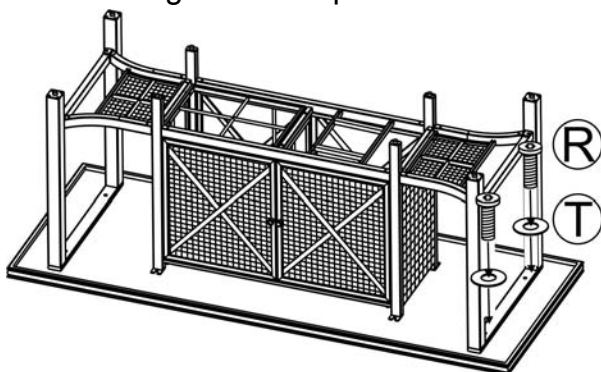
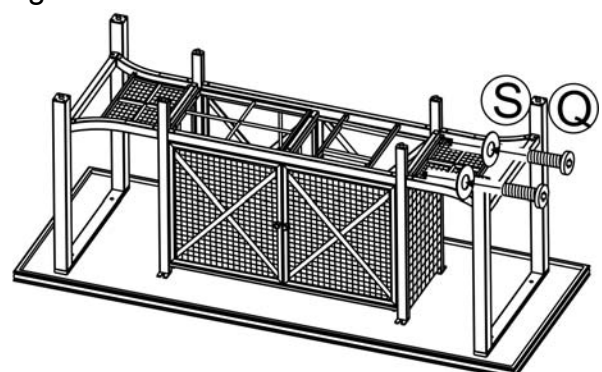

Figure 4a
Figure 4b
4. Attach a complete leg to the firepit table top by using two 1/4"x35 mm bolts and Ø20xØ6.5x2.0mm washers as shown in Figure 4a. Repeat for the other complete leg. Attach a complete leg to the firepit base by using two 1/4"x30 mm bolts and Ø6.5x1.0mm washers as shown in Figure 4b. Repeat for the other complete leg.